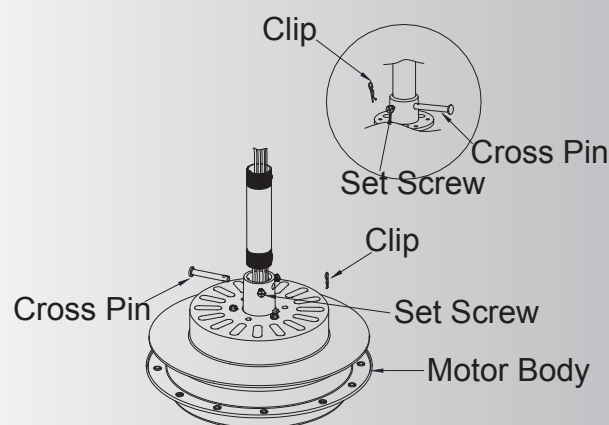

Fig. 7
**Step 3.** Loosen the two set screws and remove the lock pin and hitch pin from the top coupling of the motor body. Carefully feed the fan wires up through the downrod. Thread the downrod onto the motor coupling until the hitch pin holes are aligned. Next, replace the lock pin and hitch pin, and tighten both set screws. (Fig. 7)